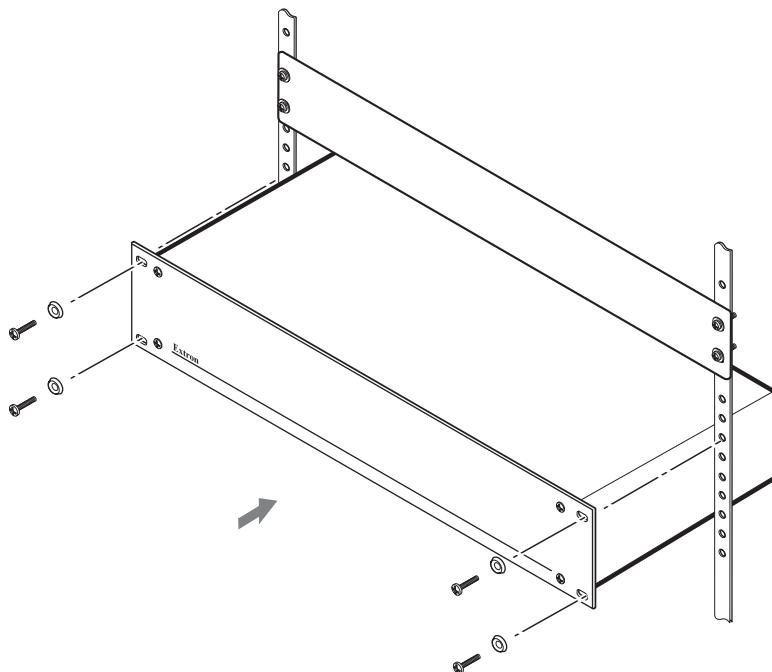

Figure 121. Rack Mounting the DXP to a 19-inch Rack
2. Remove the button assembly by inserting a small, flat-bladed screwdriver, such as an Extron Tweeker, between the button base and the diffuser to gently pry the button assembly off the button plunger, as shown in figure 121, above.
3. Locate the small corner notch on the lens cap, and slide the screwdriver between the lens cap and the diffuser (see ② in the illustration below).
4. Using a rotating motion of the screwdriver, carefully pry the two pieces apart (see ③ in the illustration below).